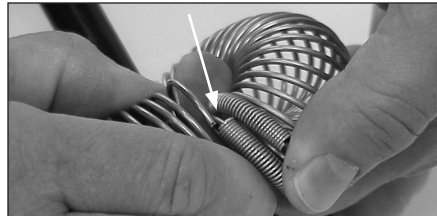

FIGURE 5: Insert end of Corona Ring into Inner Spring.
5. Wrap the Corona Ring around cable. Insert other end of Corona Ring into Inner Spring (**Figure 5**).